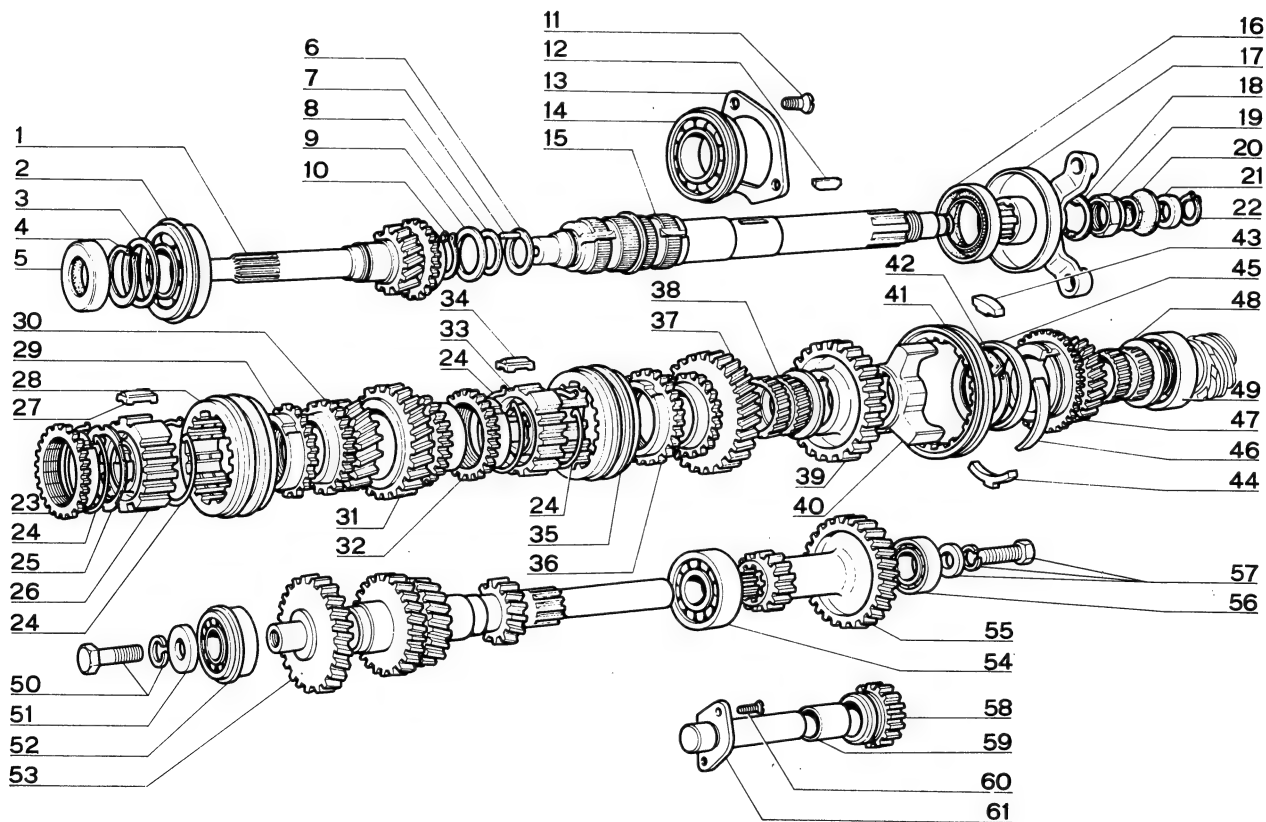

Fig. 114. - 1500 and 1600 S Cabriolet transmission components.
Work on bench and proceed in this order (figs 114 and 115):
Fit the clutch shaft inner thrust ring (8, fig. 114) in the shaft groove, position the twenty-three needle rollers (7) for mainshaft end bearing and insert the outer thrust ring (6).
NOTE - Some five-speed transmissions of early production were designed with the mainshaft rear ball bearing lock by a screw (57, fig. 114) having a torque specification of 68.7 ft.lbs (9.5 kgm).